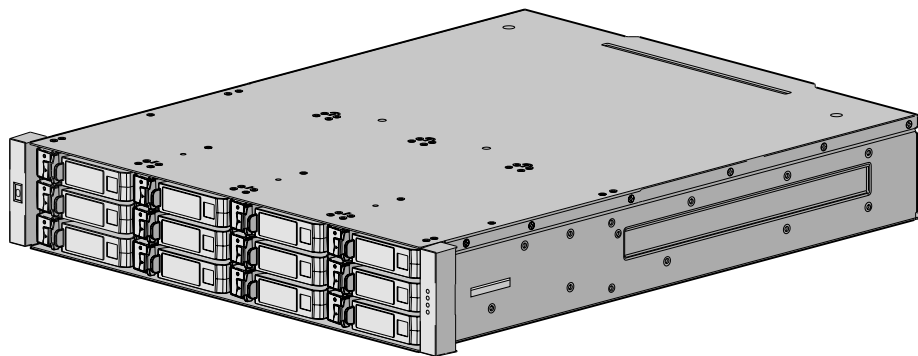

Figure 34 Controller enclosure assembly (2U12)
- Assembly: Figure 34 on page 226